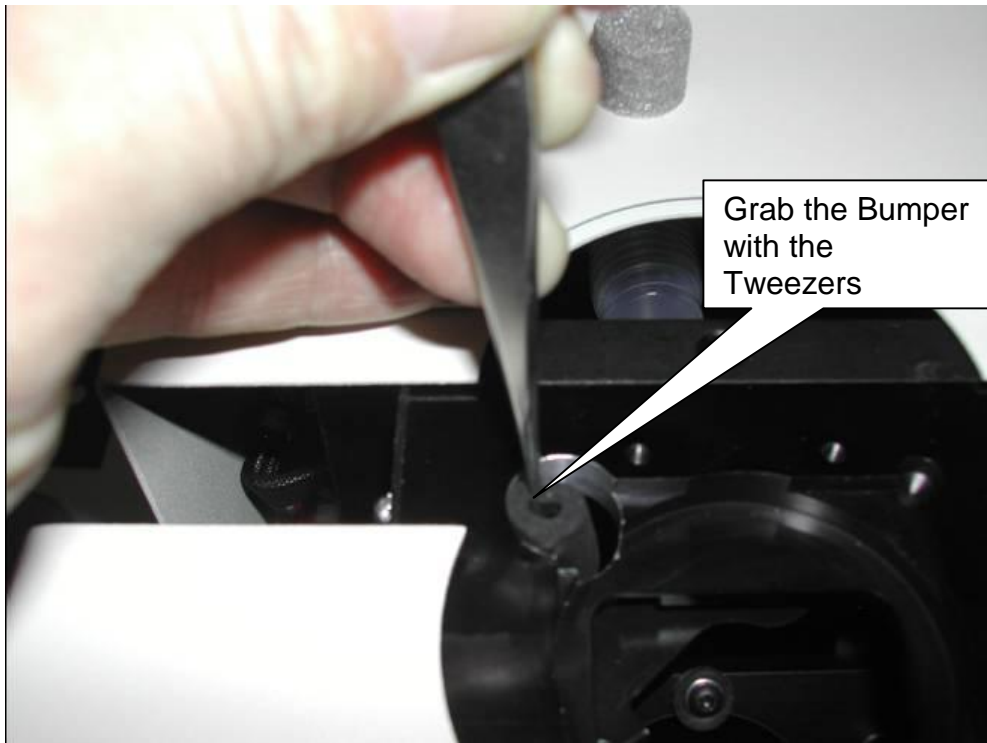

Figure 7
- J Lift the bumper out with a pair of tweezers. (Note: The bumper may be in two parts) **Figure 7 & 8**